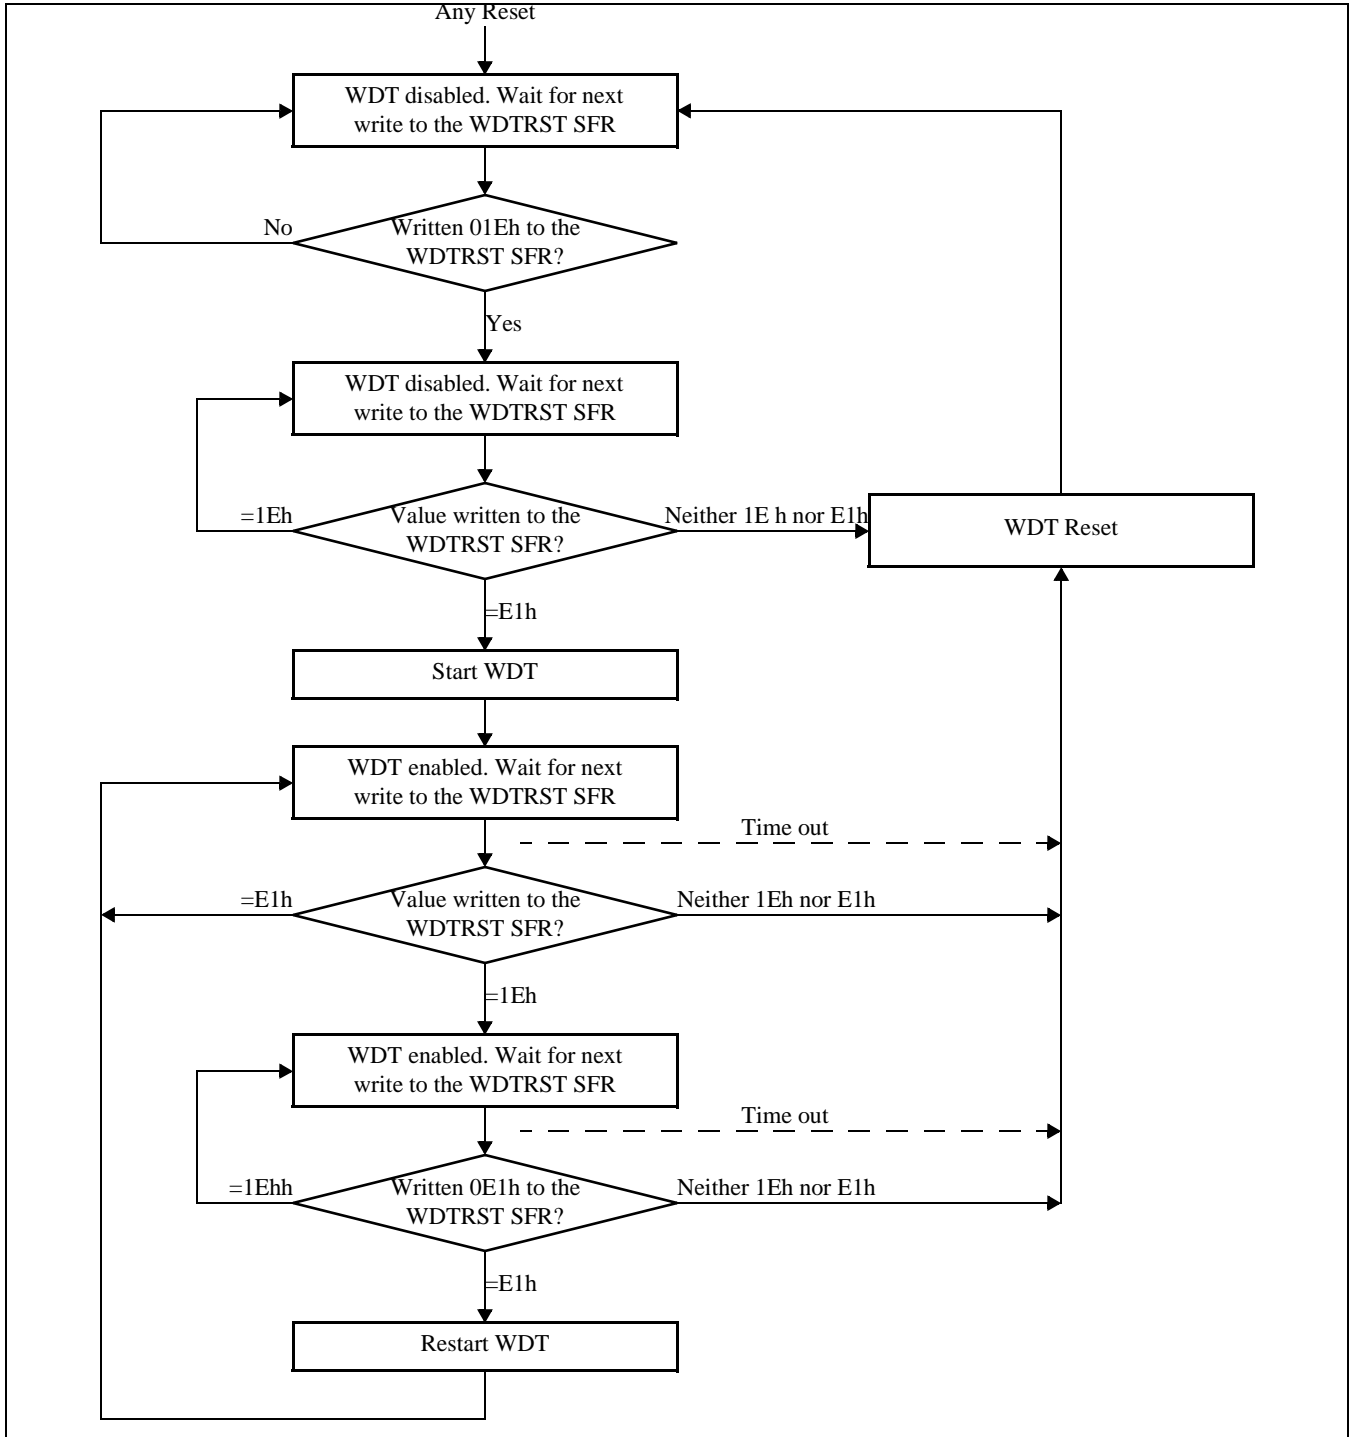

Figure 63: Watchdog Timer State Transitions
- Refer to Figure 63 for details of WDT operations, including effects of illegal feed patterns to the WDTRST SFR.